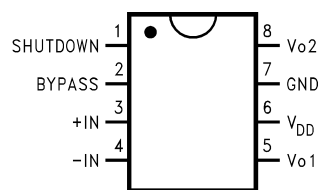

**Figure 1. Typical Audio Amplifier Application Circuit**
- (6) PSRR is a function of system gain. Specifications apply to the circuit in Figure 1 where  $A_V = 2$ . Higher system gains will reduce PSRR value by the amount of gain increase. A system gain of 10 represents a gain increase of 14dB. PSRR will be reduced by 14dB and applies to all operating voltages.
- PSRR is a function of system gain. Specifications apply to the circuit in Figure 1 where  $A_V = 2$ . Higher system gains will reduce PSRR value by the amount of gain increase. A system gain of 10 represents a gain increase of 14dB. PSRR will be reduced by 14dB and applies to all operating voltages.